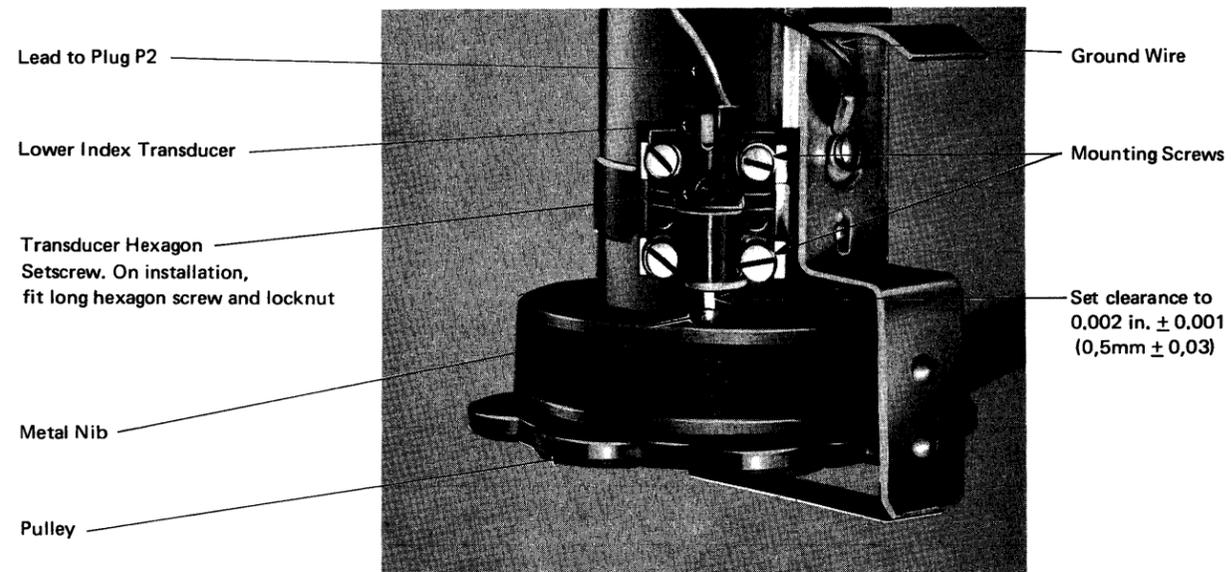

Figure 2-19. Lower Index Transducer [07544]
2. Check that gap between transducer and metal nib on spindle pulley (Figure 2-19) is 0.002 in.  $\pm$  0.001 (0,05 mm  $\pm$  0,03).
2. Without disturbing transducer housing, release hexagon setscrew that holds transducer (see Figure 2-19).